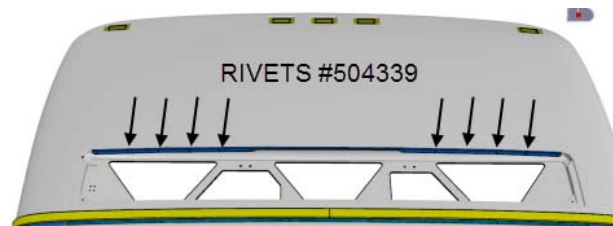

FIGURE 50
11. Fasten the drip edge using eight (8) rivets #504339 as shown on **FIGURE 50**.
12. Remove the four (4) screws previously installed and replace with rivets.